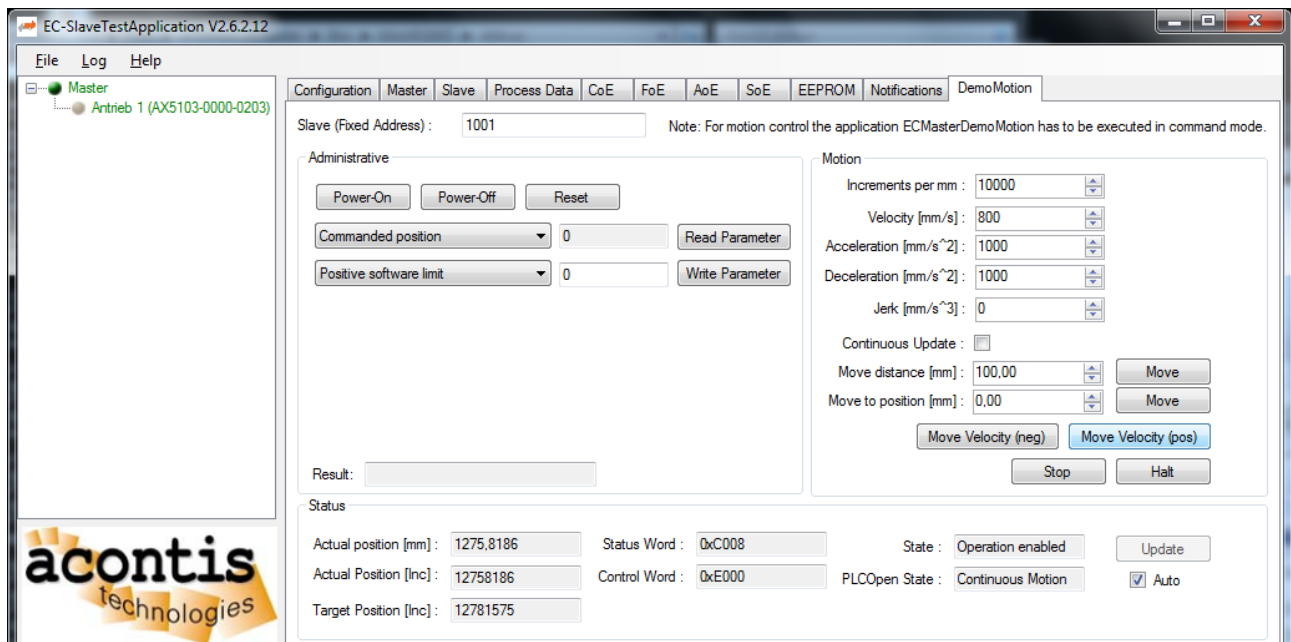

Figure 2-3 STA with motion control pane
The *ECMasterDemoMotion* program is statically linked with the EC-Motion C++-library and dynamically linked with the EC-Master C-library. *ECMasterDemoMotion* also starts the Remote Access Server (RAS Server) that is integrated into the EC-Master library. The RAS Server is listening on a TCP/IP socket for “Motion Commands” that are send from the EC-SlaveTestApplication (abbr. STA, see Figure 2-3) on user request.
- Command mode: Motion is remotely commanded with the SlaveTestApplication (see Figure 2-3). => Set parameter "Config/MotionDemo/CmdMode" to 1.